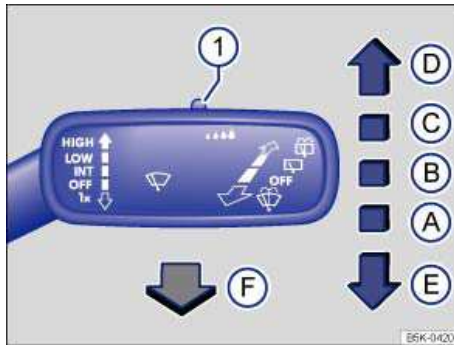

Fig. 79 Operating the front windshield wipers.
- Press the windshield wiper lever down briefly ⇒ fig. 79 \(E\) when the ignition is off.
Carefully fold the wiper arms back onto the windshield before driving! Switch the ignition on and press the windshield wiper lever down briefly ⇒ fig. 79 \(E\). The wiper arms move back to their original position.